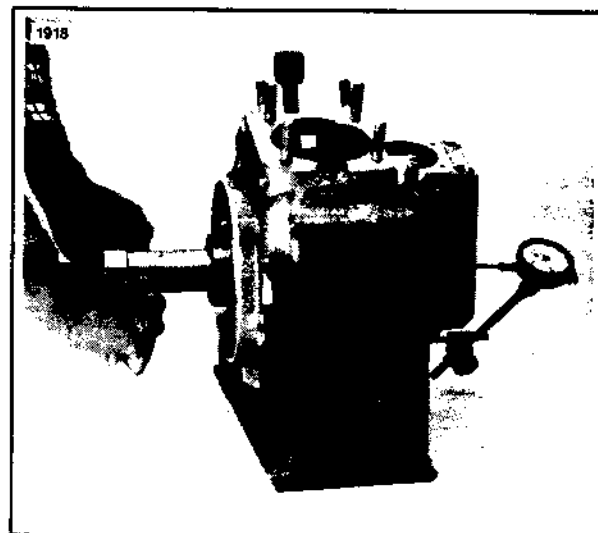

Figure 4. Checking Flywheel End Play
5. See Figure 4. Before removing the bearing installation tool, fasten a dial indicator to the gear side of the crankcase. Place the indicator stem on the end of the gearshaft. Check amount of main bearing end play by rotating and pushing on the sprocket shaft while reading the dial indicator extremes of travel. If the reading is not between .001 and .004 in., remove the bearing inner spacer.